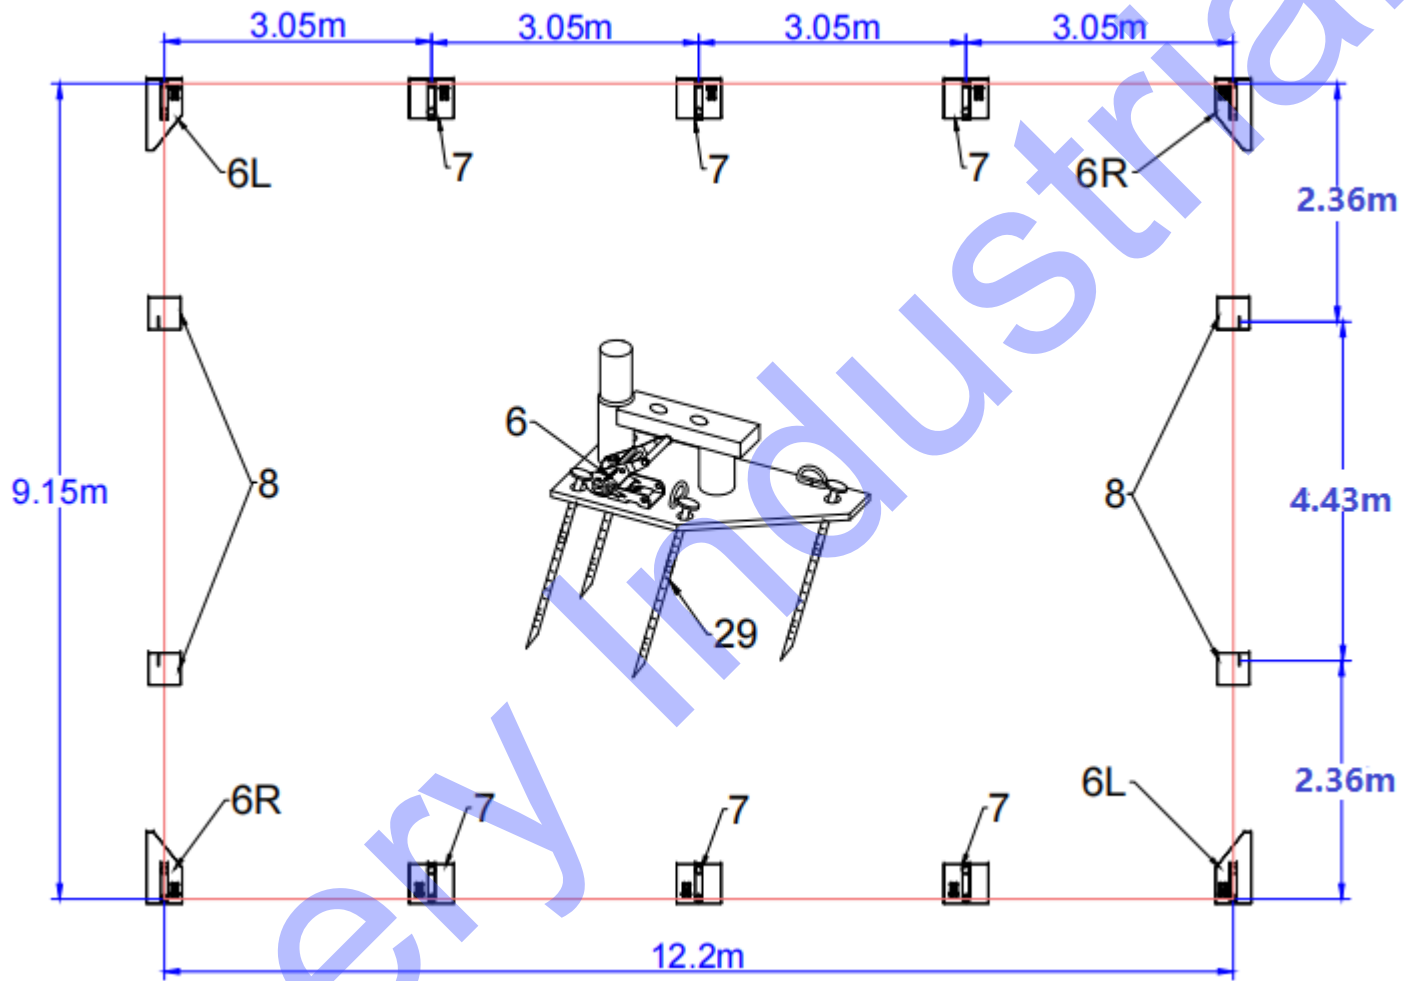

Figure 2: Foundation placement
Please refer to the diagram (Figure 2) to place the base plates:
- 2.As Figure 2 shows each Base plate is equipped with 4 pieces of expand screws.